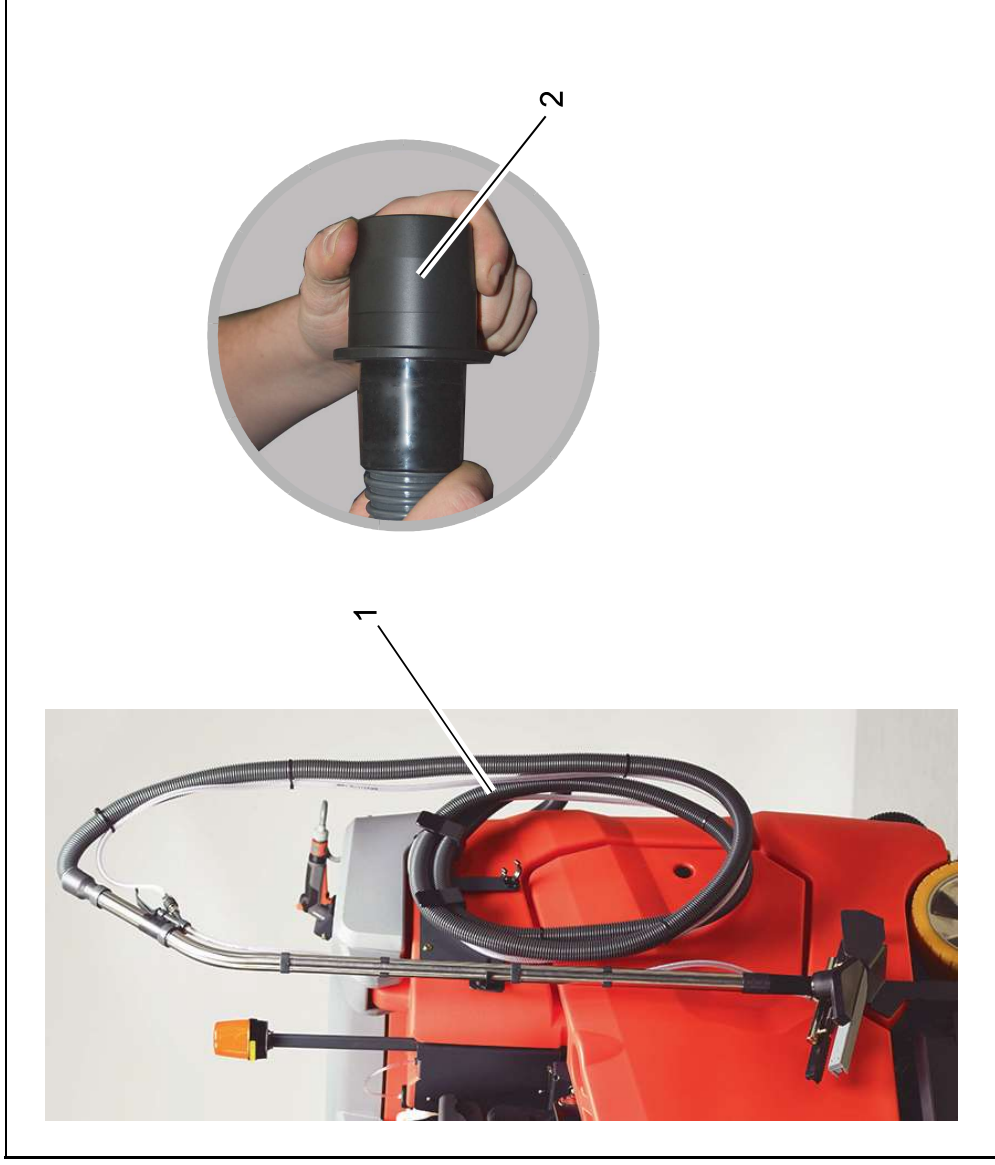

Fig. 3
1. Attach spray suction tool (option 7009.10) (Fig. 3/1) as shown in the illustration.
2. Securely attach sleeve (Fig. 3/2) to end of hose of spray suction tool.